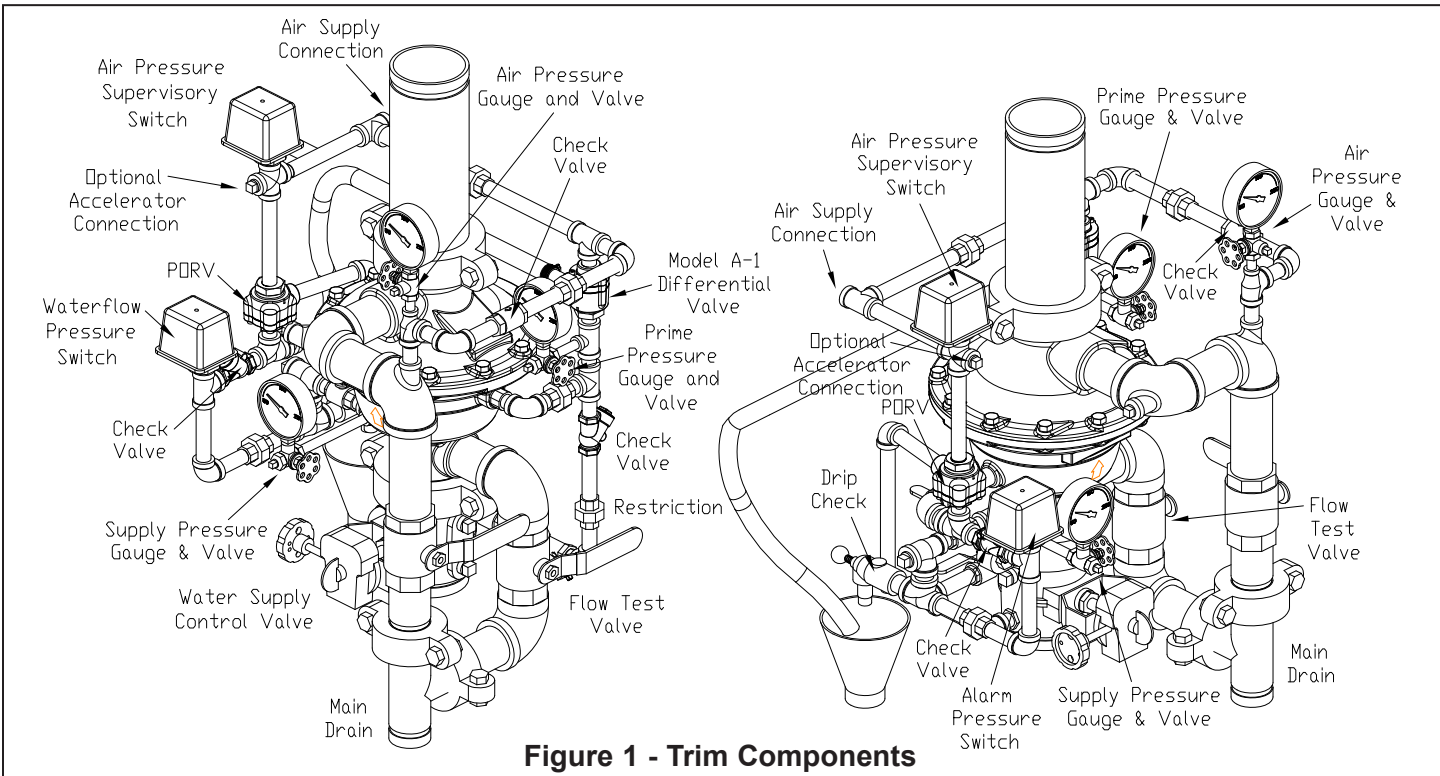

Figure 1 - Trim Components
- The Viking E-1 Accelerator should be installed at the location indicated in Figure 1 when required by the installation standard